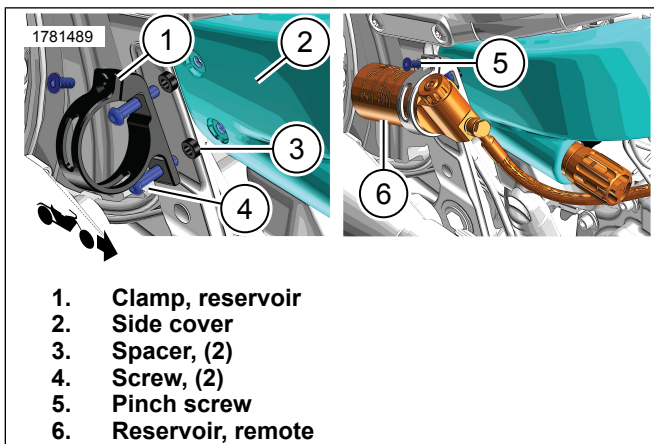

Figure 5. Remote Reservoir
4. Carefully insert remote reservoir (6) into reservoir bracket (1).
- a. Figure 5 Orient to optimize hose routing.
5. Install pinch screw (5). Tighten.